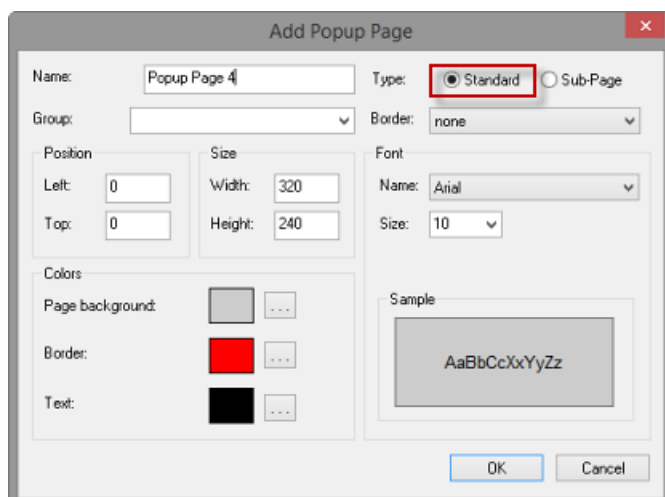

FIG. 57 Add Popup Page dialog
1. Select **Panel > Add Popup Page** to open the *Add Popup Page* dialog (FIG. 57):